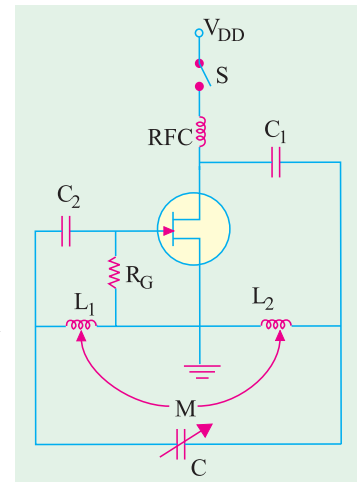

Fig. 65.9
The basic circuit is shown in Fig. 65.9.  $R_G$  is the gate biasing resistor. There is mutual induction between the two parts  $L_1$  and  $L_2$  of the coil.
**Example 65.5.** Calculate the oscillator frequency for a FET Hartley oscillator (refer to Fig. 65.9), for the following circuit values:  $C = 250 \text{ pF}$ ,  $L_1 = 1.5 \text{ mH}$ ,  $L_2 = 1.5 \text{ mH}$ , and  $M = 0.5 \text{ mH}$ .